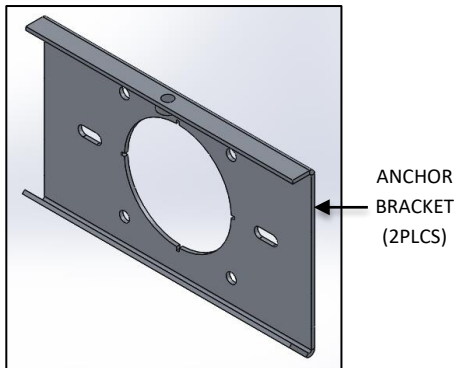

FIG.4- ANCHOR BRACKET
- a. ANCHOR BRACKET (as shown in FIG. 4)